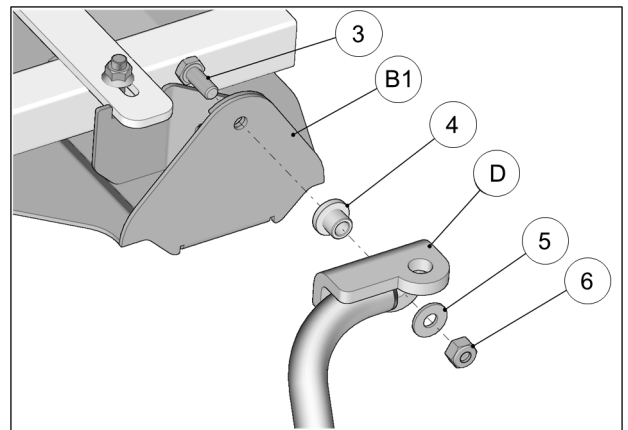

Fig. 10
10. Attach the rear suspension stabilizing rod (D) to anchor plate (B1) using the bolt (3), bushing (4), washer (5) and nut (6). Torque to 50 N•m [37 lb•ft]. See Fig. 10